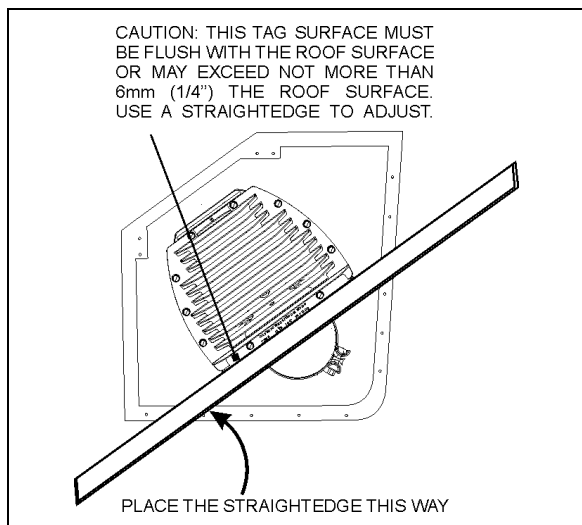

FIGURE 8: DIFFUSER POSITION ADJUSTMENT 04015_2
3. Using a straightedge, adjust the diffuser assembly level. The top surface of the tag fixed on the diffuser grille must be flush with the roof surface (fig.8). It may exceed about 1/4in (6mm). Place the straightedge as shown on figure 8.